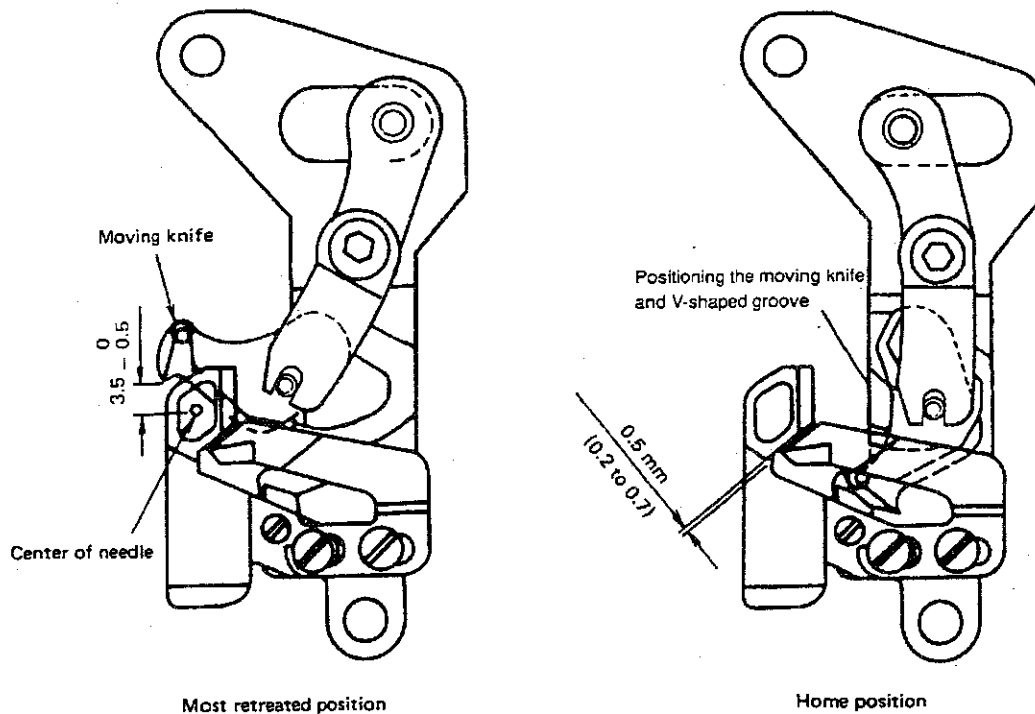
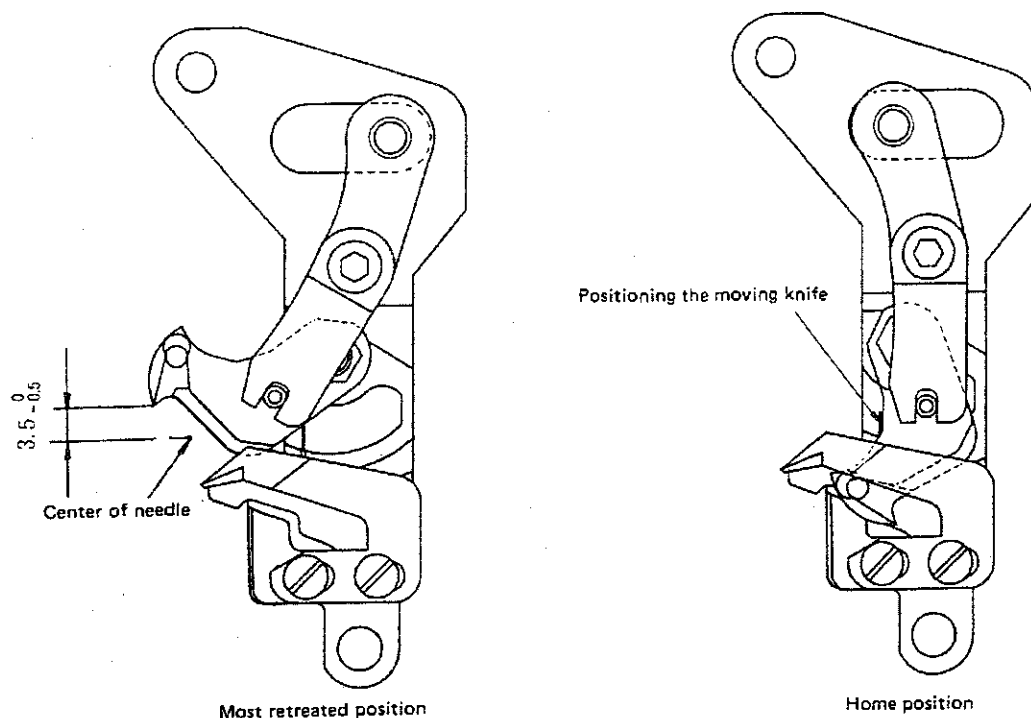
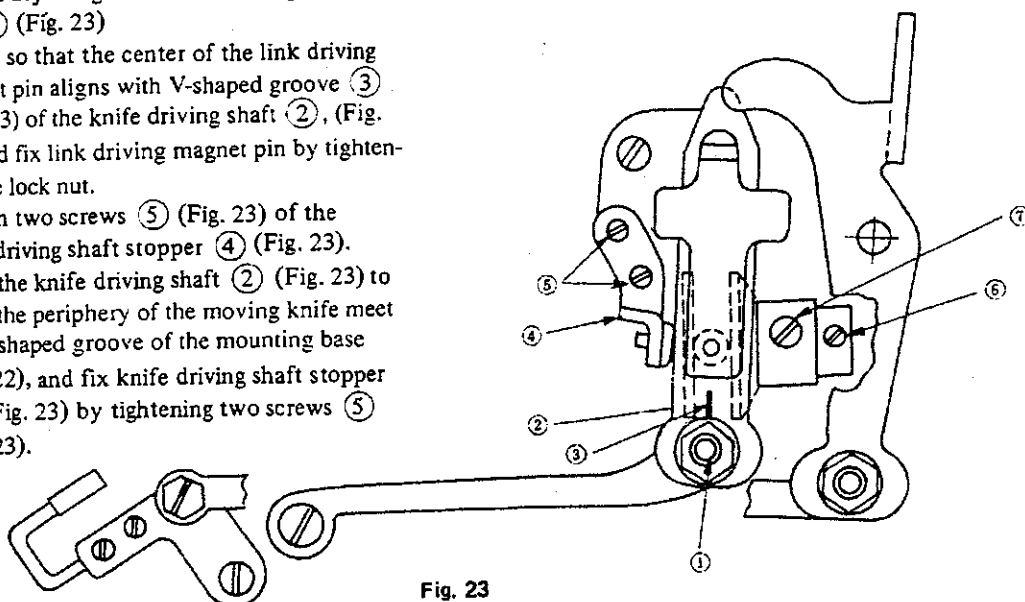

Fig. 22
Fig. 22-1
Fig. 23
The moving knife should be positioned so that the front end of the moving knife is 3 mm (0.118") to 3.5 mm (0.138") behind the center of the needle as illustrated in Fig. 22 (for the H type machine, see Fig. 22-1) when the moving knife travels to its stroke end with the pitch set to 0 (zero). If the retreat of the moving knife is not enough, the knife may fail to catch the needle or bobbin thread at the time of thread trimming. On the contrary, if the moving knife retreats excessively, the moving knife may hit the feed dog. To avoid these problems, be sure to accurately position the moving knife.
The position of the moving knife is adjusted by changing the lateral position of link driving magnet pin ① (Fig. 23) while the machine is at rest.
- ① Loosen the lock nut of link driving magnet pin ① (Fig. 23)
- ② Move the link driving magnet pin to the right or left to make the V-shaped groove (Fig. 22) meet the periphery of the moving knife, referring to the home position shown in Fig. 22.
- ③ Retighten the lock nut of the link driving magnet pin when the proper position of the moving knife has been obtained. As the link driving magnet pin is moved to the right, the retreat of the moving knife increases. As it is moved to the left, the retreat of the moving knife decreases.
- ① Loosen adjusting nut of link driving magnet pin ① (Fig. 23)
- ② Adjust so that the center of the link driving magnet pin aligns with V-shaped groove ③ (Fig. 23) of the knife driving shaft ②, (Fig. 23) and fix link driving magnet pin by tightening the lock nut.
- ③ Loosen two screws ⑤ (Fig. 23) of the knife driving shaft stopper ④ (Fig. 23).
- ④ Move the knife driving shaft ② (Fig. 23) to make the periphery of the moving knife meet the V-shaped groove of the mounting base (Fig. 22), and fix knife driving shaft stopper ④ (Fig. 23) by tightening two screws ⑤ (Fig. 23).
- ⑤ Loosen the two screws of thread trimmer cam ⑦ (Fig. 23) and cam collar ⑥ (Fig. 23).
- ⑦ Manually turn the cam until screw No. 2 ⑦ (Fig. 23) faces toward you. Then press the thread take-up picker to the right.
- ⑧ Move the cam to the right or left to engage the cam with the cam roller.
- ⑨ With the cam engaged with the cam roller, turn the cam in the direction of the arrow (toward you) until it stops, while lightly pulling the cam to the right.
- ⑩ Tighten screw No. 2 ⑦ (Fig. 23) of the cam for preliminary installation.
- ⑪ Then confirm:
- ⑫ Securely tighten the two screws of the cam.
- ⑬ Press the thrust collar against the cam and fix it by tightening the screw.